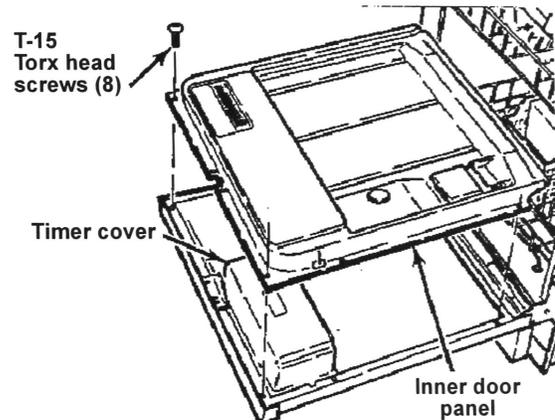

Figure 3
4. Open the door and remove the eight (8) screws securing the inner door panel, and remove the panel. See Figure 3 for details.